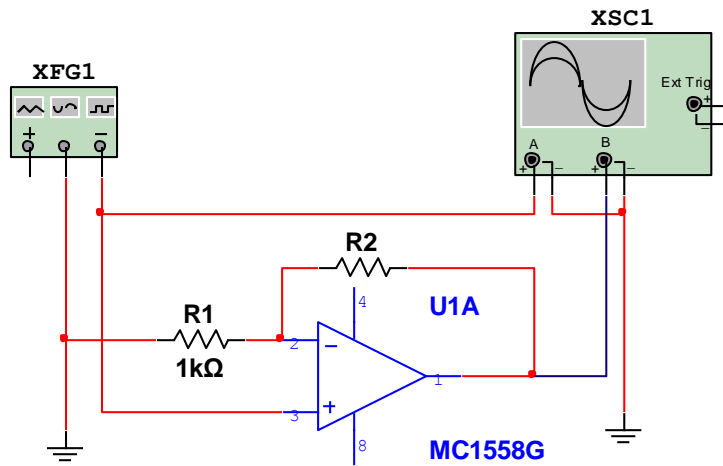

Fig. 1.7 Simulation circuit for non-inverting OA
1.3. Create the non-inverting operational amplifier (OA) circuit as in Fig.1.7